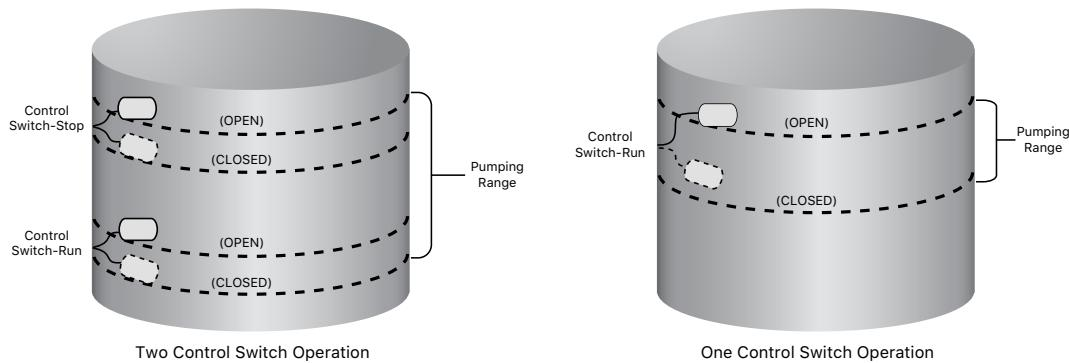

Figure 8: Control Switch Operations
2. Connect the cables from the "RUN" control switch to the Terminal Block labeled "RUN" (Figure 8).
The Photon™ Drive is designed to utilize up to two control switches for operation. When both switches are installed, the controller starts to pump and waits to shut off until both switches read “OPEN”. Once it shuts off, the controller then waits to run again until both switches read “CLOSED”. An example application (Figure 8) is to use separate level switches to indicate high and low water levels. When using two switch inputs, remove the jumper located immediately behind these switch inputs.
Alternatively, the Photon™ Drive may be configured to control water level by using a single input switch. Once properly configured for a single active input with a control switch installed, the controller starts to pump and waits to shut off until the active switch reads “OPEN”. Once it shuts off, the controller then waits to run again until the switch reads “CLOSED”. An example application (Figure 8) would be to use a single-contact level-switch that keeps the storage tank as full as possible without overflowing. For single level switch control, use only the “RUN” terminal connections. Leave the jumper in place, located immediately behind these switch inputs.